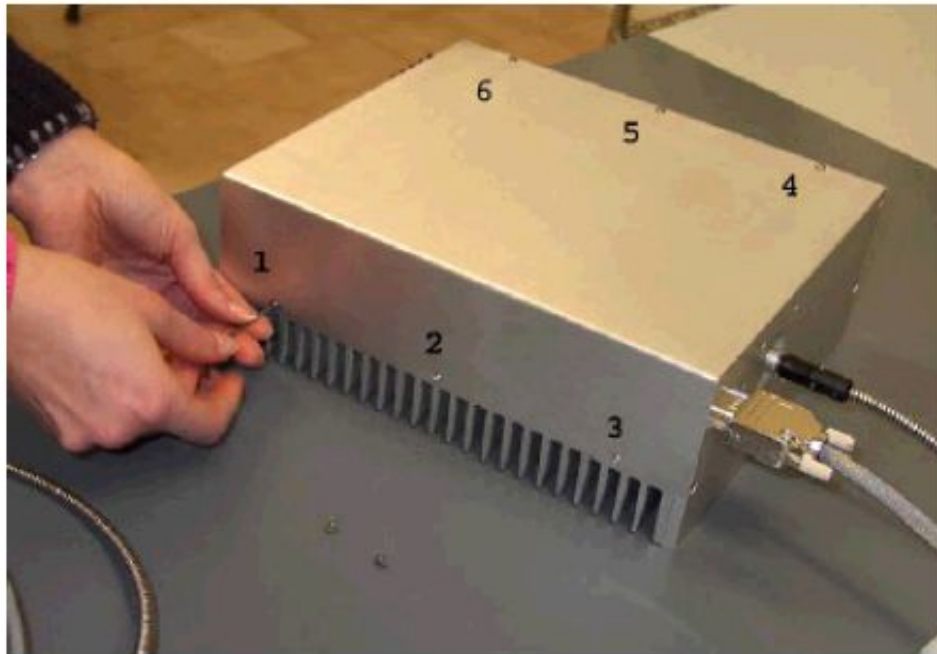

fig.1
- 1) Unscrew the screw (1-2-3-4-5-6) of the pumping unit cover[fig.1]